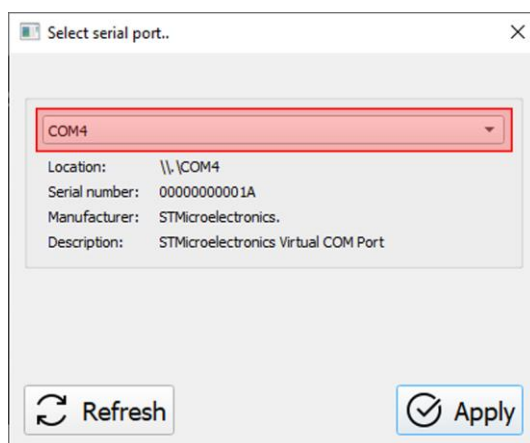

Figure 3.2 - Choosing a virtual COM port
3.5. In the window that opens, select the virtual COM port for connecting the device from the drop-down list (Figure 3.2).